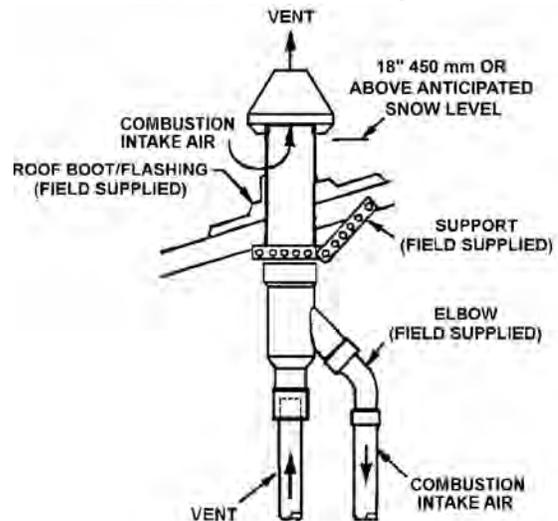

Figure 33. Installing Concentric Termination Assembly on a Roof
- A. Cement Y concentric fitting to larger diameter kit pipe. See *Figure 33*.
- B. Cement rain cap to smaller diameter kit pipe. See *Figure 33*.
5. Secure assembly to roof structure as shown in *Figure 33* using field supplied metal strapping or equivalent support material.
Note: Ensure termination height is above the roof surface and anticipated snow level as shown in *Figure 33*.
7. Cement water heater combustion air intake and vent pipes to concentric vent termination assembly. See *Figure 33* (page 31) for proper pipe attachment.